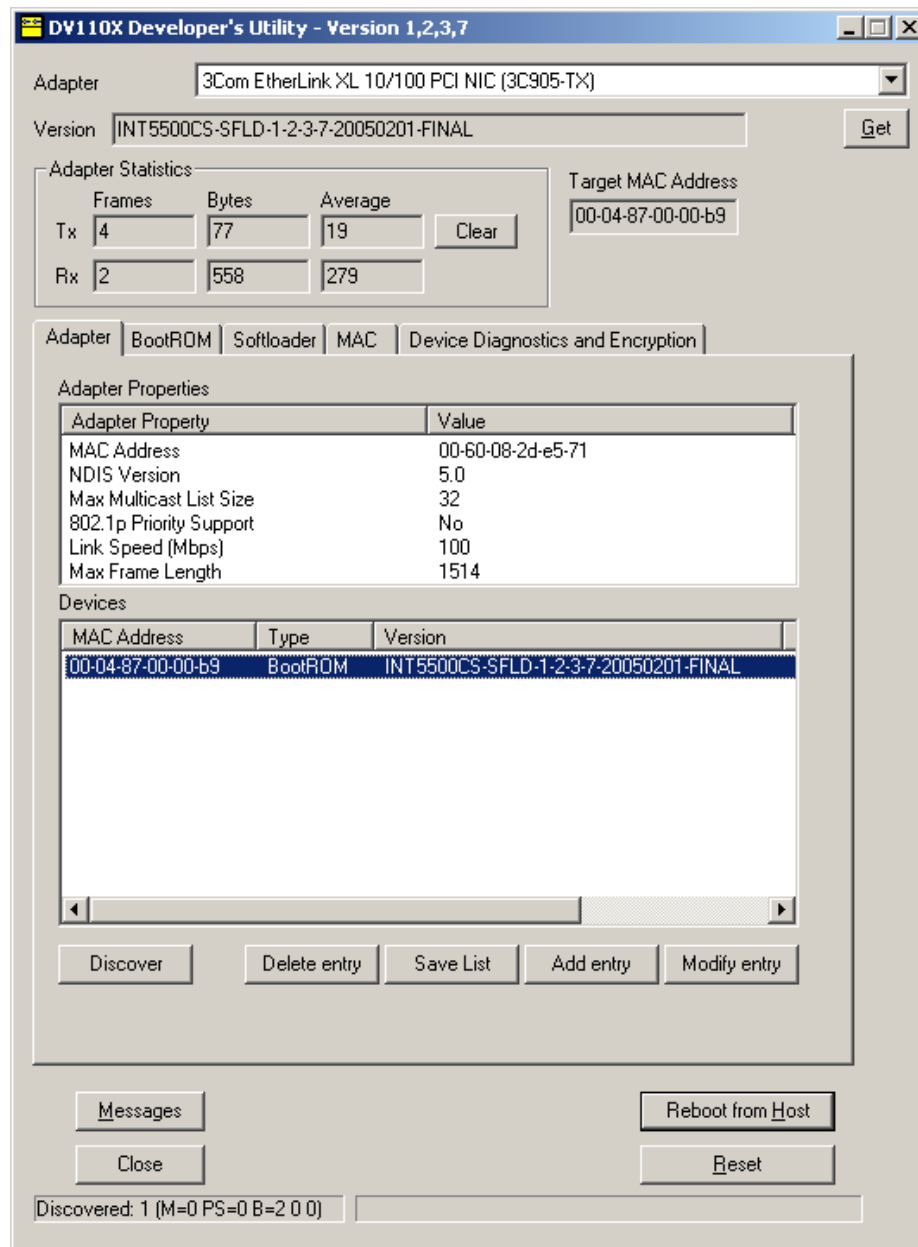

Figure 8: DV110X.exe Adapter page
4. Click the “Reboot from Host” button. This will change the device type from Local to BootROM as shown in Figure 8. Note that the Version should now indicate the softloader mode (e.g. INT5500CS-SFLD-xxxx...). Where the “x” stands for version specific information.